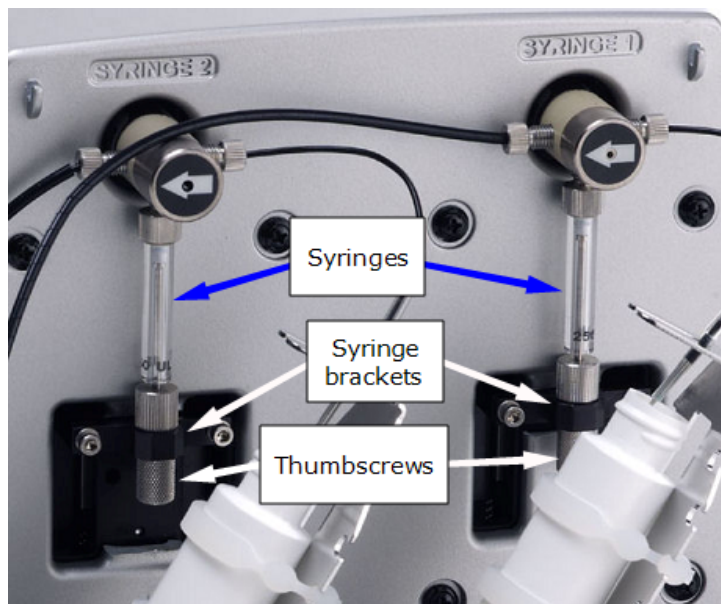

Figure 2-5: Syringe installation
13. Install the syringes, referring to Figure 2-5 on page 18: